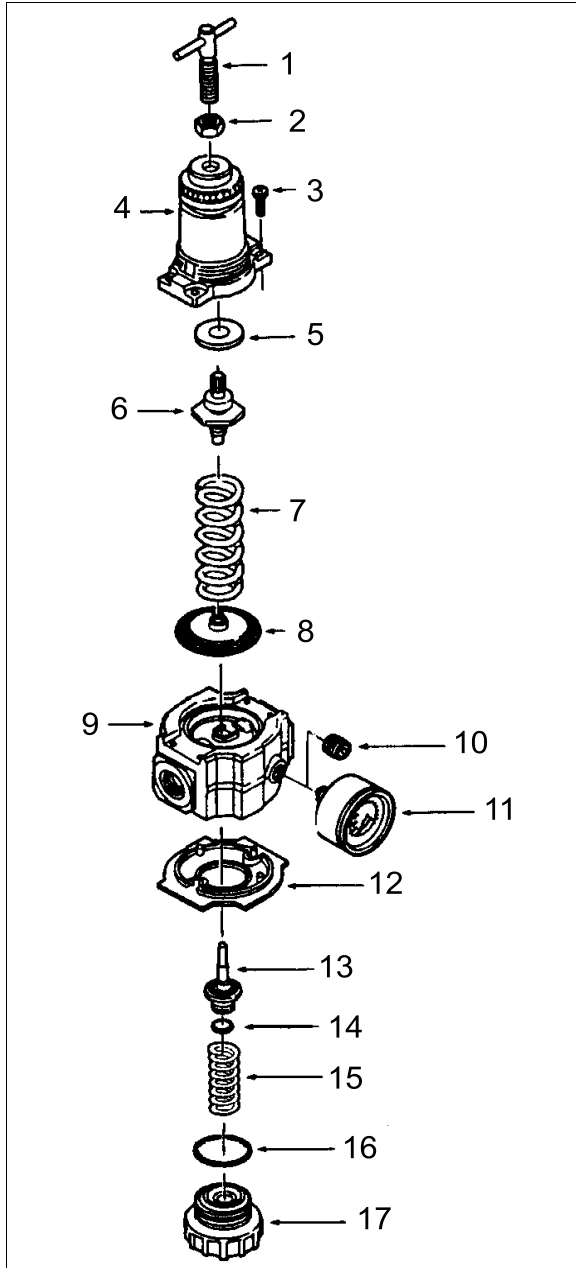

FIGURE 42: AIR PRESSURE REGULATOR
1. Before turning on system air pressure, release jam nut (2, Figure 42) then turn regulator adjustment handle counterclockwise until the load is removed from the regulating spring.
5. Tighten jam nut (2, Figure 42) to lock pressure setting.
1. Shut off inlet pressure and reduce pressure in inlet and outlet lines to zero. Turn regulator adjustment handle (1, Figure 42) counterclockwise until all load is removed from regulating spring. Regulator can be disassembled without removal from air line.
1. Lubricate O-ring (14 and 16, Figure 42), valve stem (13), tip of adjusting screw (1), and the outer circumference and both sides of the thrust washer (8) with a light coat of good quality O-ring grease.